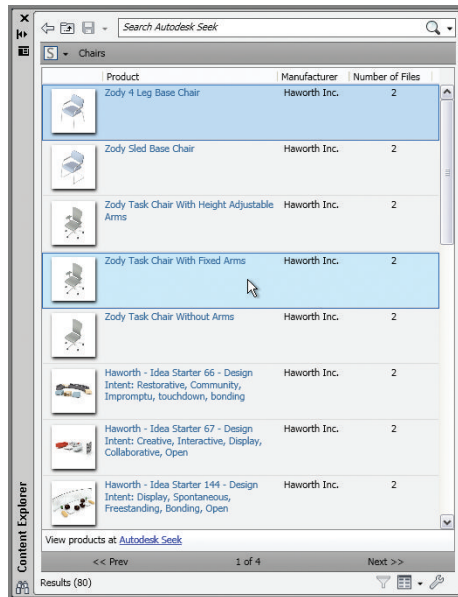

FIGURE 9.17 Searching for chairs
5. You can click on any of the *breadcrumbs* to go to specific folders in the local path. Alternatively, you can access online content. Open the Content Sources menu, and select Autodesk Seek. Double-click the **Chairs** folder, and select this item in the list: **Zody Task Chair With Fixed Arms** (see Figure 9.17).